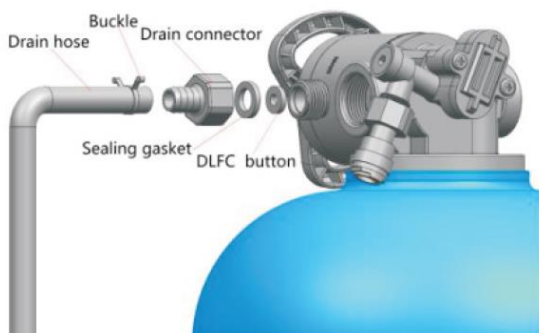

Figure 1-3
3. Install Drain Pipeline and Connect Brine Tube (Refer to Figure 1-3, 1-4)